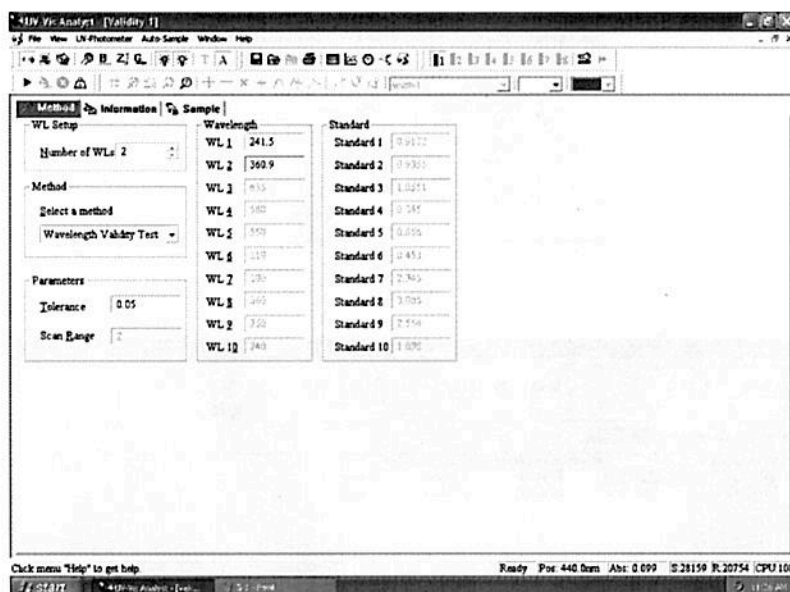

Fig. 5-5
1. Click  on the toolbar. The following form appears (Fig. 5-5).